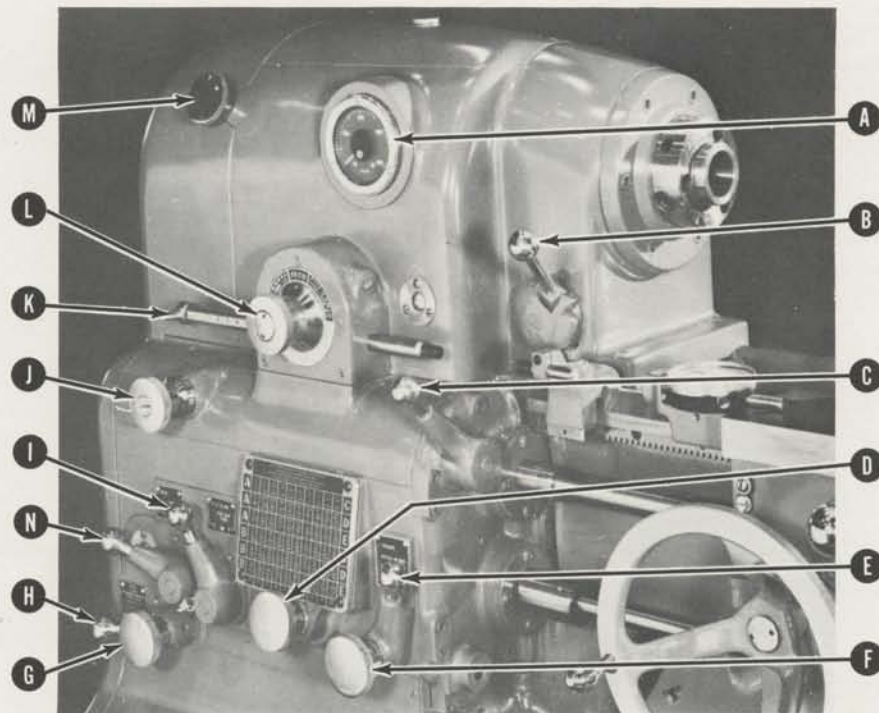
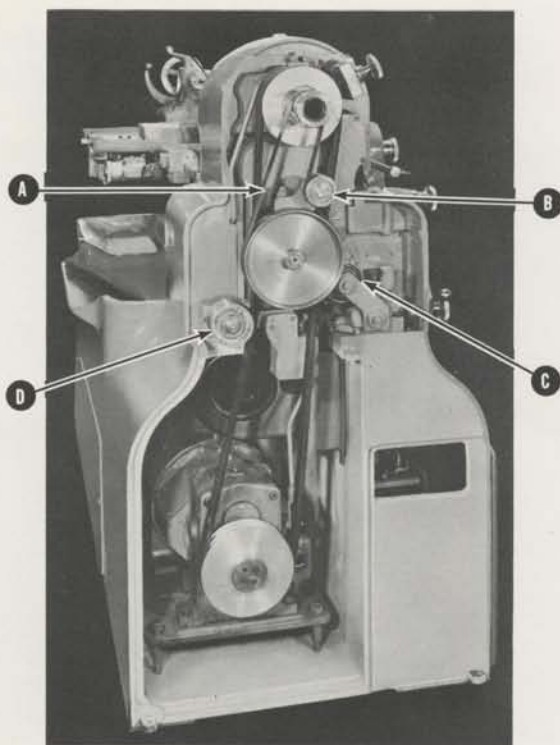
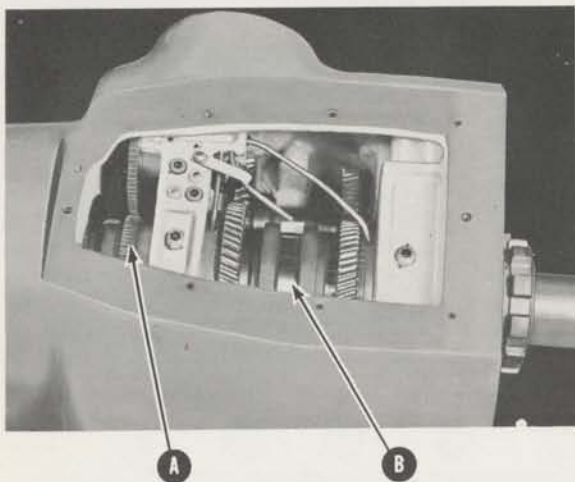

FIGURE 3. Headstock and Gear Box
FIGURE 4. Headstock End Covers Removed
FIGURE 5. Headstock, Top Cover Removed
The direct current main drive motor is mounted in the headstock end of the cabinet base. An integral part of the D. C. motor is a back gear unit. Lever (H) Figure 3 engages this unit. In the open belt position the motor sheave is driven directly by the motor armature. In the back gear position the armature drives the motor sheave thru a five to one reduction gear.
When the 10' EE is used for turning, facing or boring the only gearing rotation in the headstock is the tachometer drive (A) Figure 5. Power is supplied to the gear box for feed during these operations by the feed belt (A) shown in Figure 4. For threading operations knob (L) Figure 3 shifts jaw clutch (B) Figure 5 right or left, engaging the reverse gears which, in turn, drive the gearbox thru the end gear train for right or left hand threading. By using the reverse gearing in the headstock and the end gear train only for threading operations which are performed at relatively low spindle speeds, the accuracy of the gearing is preserved.
The tachometer (A) Figure 3 reads direct in spindle revolutions per minute.
Knob (M) Figure 3 is a spindle lock used to hold the headstock spindle stationary when tightening or loosening collets or step chucks. To lock the spindle, push knob in and rotate half a turn. To release rotate another half turn.
Micrometer stop bar (K) Figure 3, is notched for positioning in half inch increments. To adjust bar rotate handle on left end to up position, slide to new location and rotate handle to forward position. The detent will drop into the notch with a definite snap when properly positioned. Lever (B) Figure 3 is the spindle Start-Stop-Reverse lever as furnished on the standard machine. Lathes with electric leadscrew reverse have this lever on the right side of the apron.
Variation of spindle speed over the entire range is obtained by rotation of knob (G) Figure 3.
1. Pull out and lower tumbler lever (C) Figure 3.
2. Rotate knob (D) to the number corresponding to the index plate column in which the required feed or thread appears.
4. Set A-B knob (J) and C-D-E knob (F) as shown on the index plate.
5. Push down on ball handle of lever (E) and shift to either FEED, PITCH IN MM or THDS./INCH position.
6. Push down on ball handle of lever (I) and shift to either PITCH IN MM or THDS./INCH or FEEDS.
7. Push down on ball handle of lever (N) and shift to either FEEDS or THREADS.
8. Push down on ball handle of lever (H) and shift to either BACK GEAR or OPEN BELT.
9. Pull out and rotate knob (L) to LEFT HAND THREADS, FEED or RIGHT HAND THREADS.
<p>1. Vee and flat belt tension.</p>	<p>Install spindle drive vee-belts and flat feed belt as shown in Figure 4, Pg. 4. Two idlers (C) and (D) tighten the spindle drive belt and a single idler (B) tightens the feed belt. Adjust the vee belt idlers so that a reasonable pressure with one finger on a single belt will move it approximately <math>\frac{1}{8}</math>" from idler (D). Adjust the flat belt idler so that a reasonable pressure with one finger at point (A) Figure 4 will deflect the belt approximately <math>\frac{1}{4}</math>".</p> <p>NOTE: Be sure motor base and motor leg hold down screws are tight before attempting to adjust belt tension.</p>